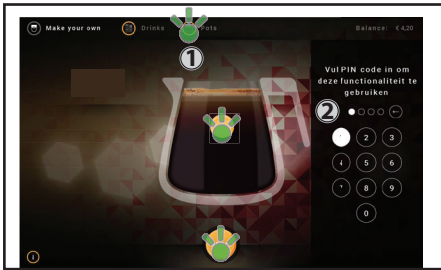

Fig. 4.9 - "Pots"
1. Tap on the upper right icon "Pots" (**1**) on the touch screen, when the dispenser is in delivery mode (fig. 4.9).
2. Type in the PIN (**2**), if applicable (fig. 4.9).